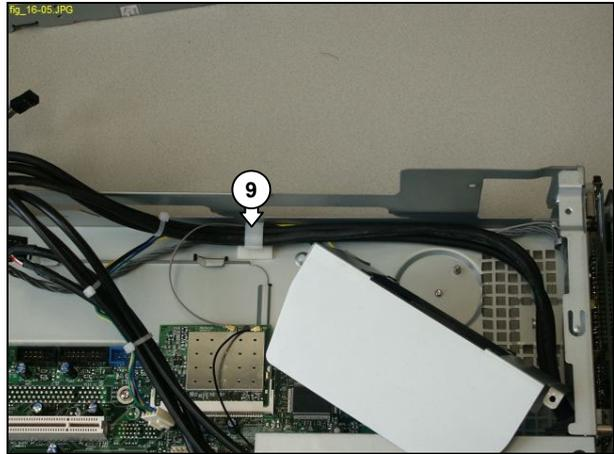

Figure 12.14-5
4. Remove the CPU fan cable from the cable clip (9). See Figure 12.14-5.